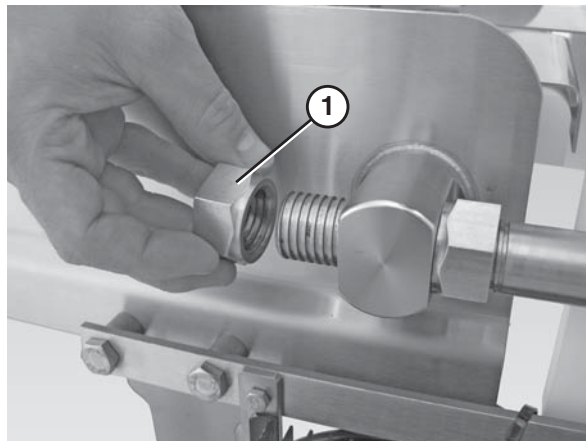

Figure 63
1. Remove the back nuts (Figure 63, item 1) on both discharge nose bar shafts.